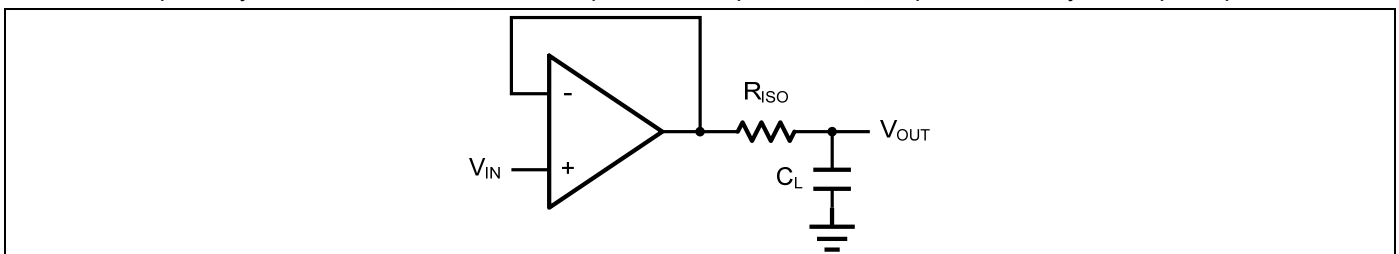
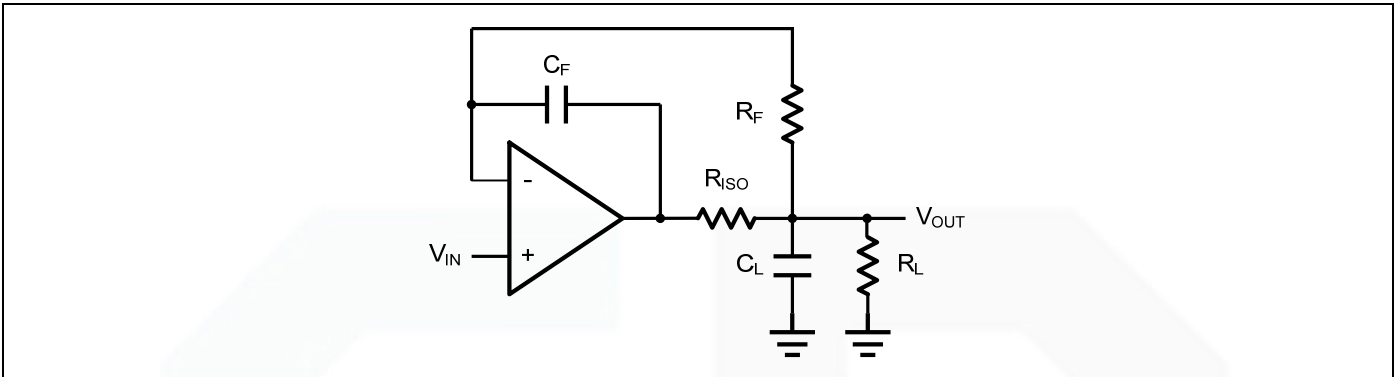

Figure 2. Indirectly Driving a Capacitive Load Using Isolation Resistor
Figure 3. Indirectly Driving a Capacitive Load with DC Accuracy
The GS855x family is optimized for bandwidth and speed, not for driving capacitive loads. Output capacitance will create a pole in the amplifier's feedback path, leading to excessive peaking and potential oscillation. If dealing with load capacitance is a requirement of the application, the two strategies to consider are (1) using a small resistor in series with the amplifier's output and the load capacitance and (2) reducing the bandwidth of the amplifier's feedback loop by increasing the overall noise gain. Figure 2. shows a unity gain follower using the series resistor strategy. The resistor isolates the output from the capacitance and, more importantly, creates a zero in the feedback path that compensates for the pole created by the output capacitance.
The circuit in Figure 3 is an improvement to the one in Figure 2. R_F provides the DC accuracy by feed-forward the V_{IN} to R_L . C_F and R_{ISO} serve to counteract the loss of phase margin by feeding the high frequency component of the output signal back to the amplifier's inverting input, thereby preserving the phase margin in the overall feedback loop. Capacitive drive can be increased by increasing the value of C_F . This in turn will slow down the pulse response.